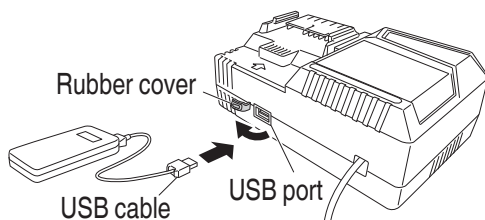

Fig. 15
- (2) Connect the USB cable. (**Fig. 15**)